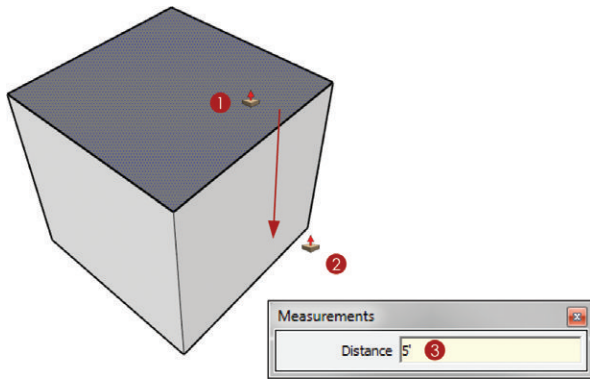

Figure 4.37 The Push/Pull tool in action
2. Move your cursor to push or pull the surface. The surface will extrude perpendicular to the starting surface (Figure 4.37). Click again to finish.